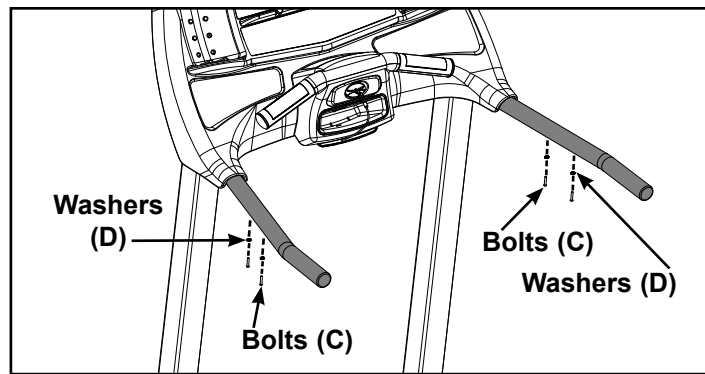

Figure 17
D. Using the 1/4" hex key (E), install and tighten both bolts (C) and washers (D) per handrail. See Figure 17.